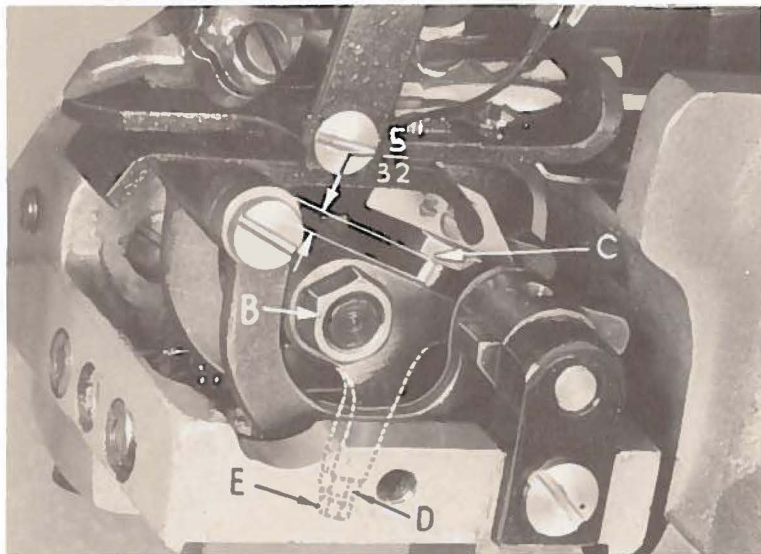

Fig. 8
If there is a need to remove the ridge forming disc assembly, depress the feed plate holders, remove the nut (B, Fig. 8) on the ridge former shaft and remove the ridge forming disc assembly. Remember when re-assembling the ridge forming disc assembly, care must be taken so that the key in the flange engages with the slot in the ridge forming disc holder. Then re-assemble the nut (B, Fig. 8) and tighten firmly.
Pressure is directly applied to the yielding ridge forming disc by adjusting the plunger rod (C, Fig. 8) with the upper nut (D) and locking in place with lower nut (E). Generally, the correct pressure is obtained when there is $5/32$ inch clearance between the top of the plunger holder and the underside of the head of the plunger shaft (Fig. 8).